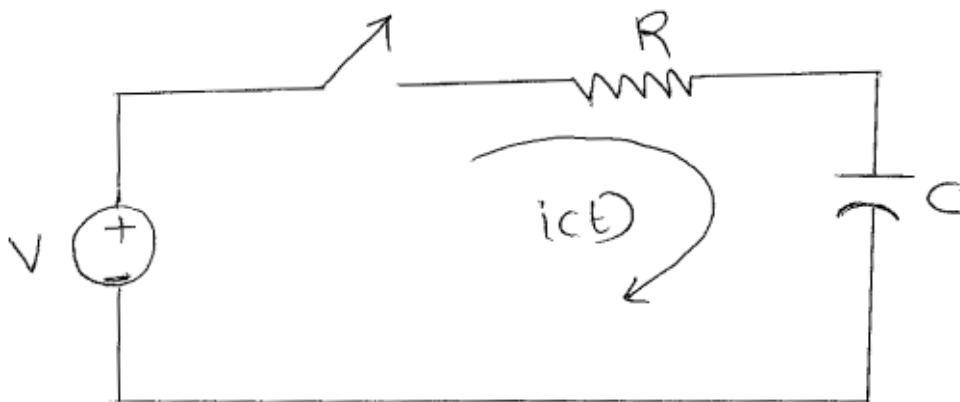

Fig. 8
- b) Using Mason's gain formula find the gain of the following system shown in fig. 8